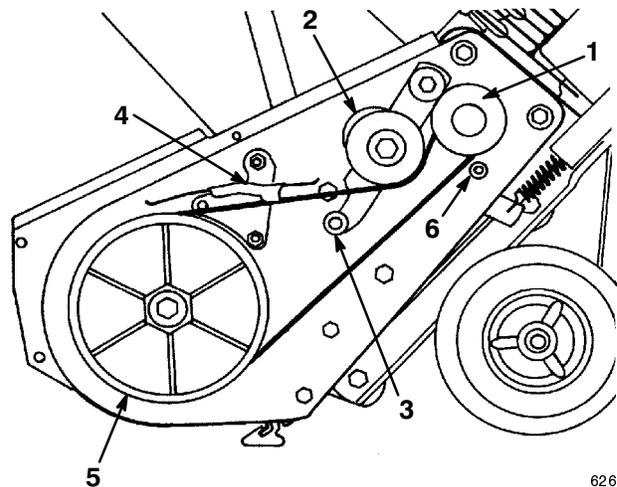

Figure 24
- Pull up on the idler pulley and remove the drive belt from the rotor pulley, the brake arm assembly, and the engine pulley (Fig. 24).
- Loop the new drive belt around the engine pulley, under the idler pulley, over the roller, through the brake assembly, and around the rotor pulley (Fig. 24).
IMPORTANT: The drive belt must be on top of the roller as shown in Figure 24.